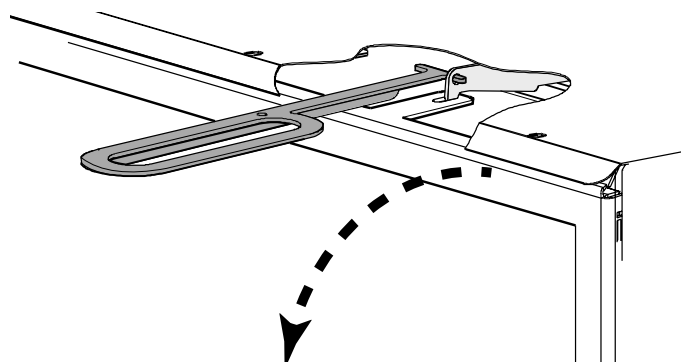

Figure 1. Pull each Spring Latch out and down to disengage it from the Glass Frame.
4. Remove the Latch Tool from the shipping pallet. Use it to disengage the two spring latches from the glass frame as shown in fig. 1. Engage the tool prong with the latch receiver hole and pull the latch hook forward and up to detach it from the glass frame slot. Pivot the top of the frame forward to disengage it from the bottom corners of the firebox. Set the glass frame out of the way.